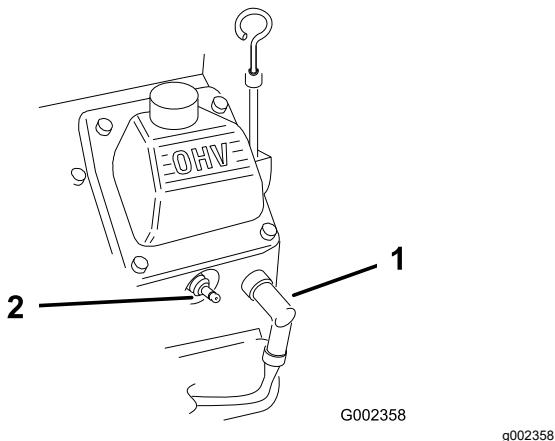

Figure 25
2. Disconnect the wires from the spark plugs (Figure 25).